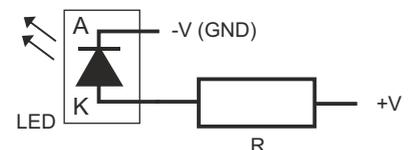

Fig. 3 Connecting the LED connector Oc
- 5 outputs OC (Open Collector max 150mA) Eg. To connect relays or LEDs (LEDs should be connected according to Fig. 3)